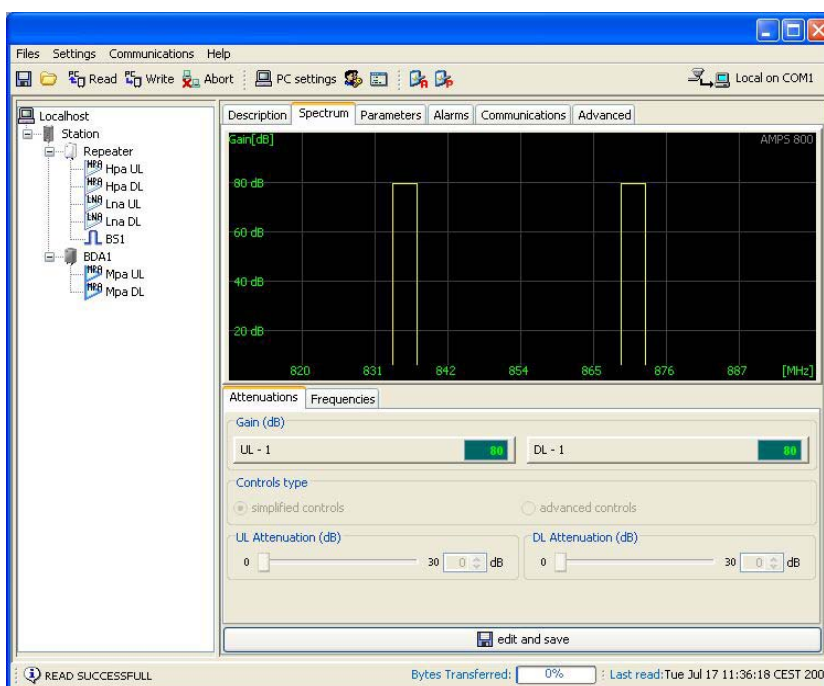

FIGURE 11 – ‘SPECTRUM’ PANEL
- In the 'Spectrum' panel (FIGURE 11) set both 'UL-attenuation' and 'DL-attenuation' to 30 (dB) - maximum attenuation, i.e. minimum gain.